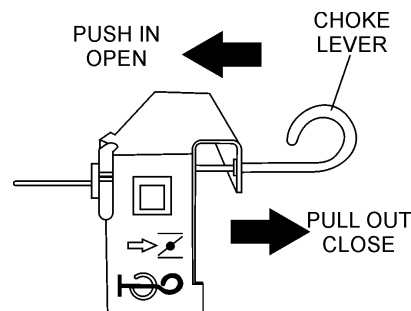

Figure 15. Choke Lever
2. Place the choke lever (Figure 15) in the **CLOSED** position if starting a cold engine.
3. Place the choke lever (Figure 15) in the **OPEN** position if starting a warm engine or the temperature is warm.
7. If the engine has started, slowly return the choke lever (Figure 15) to the **OPEN** position. If the engine has not started repeat steps 1 through 6.